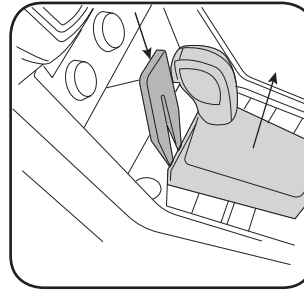

Fig. 1.11
- Using a panel tool, pry outward on the trim panel around the shifter boot, starting at front center. (Fig. 1.11)